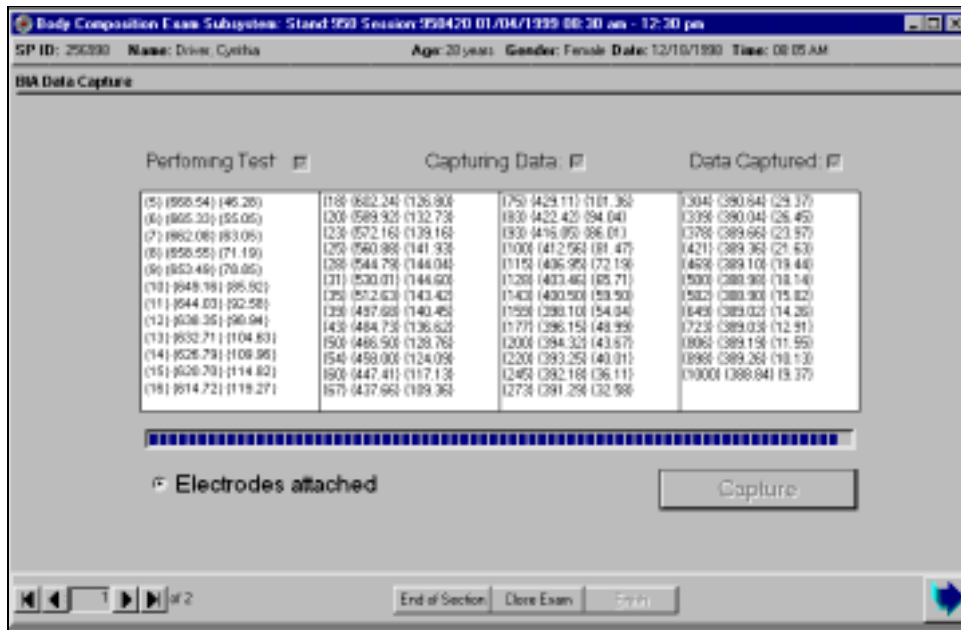

Figure 4-38. BIA data capture (3)
- The comments in the drop-down menu are shown in Figure 4-38: